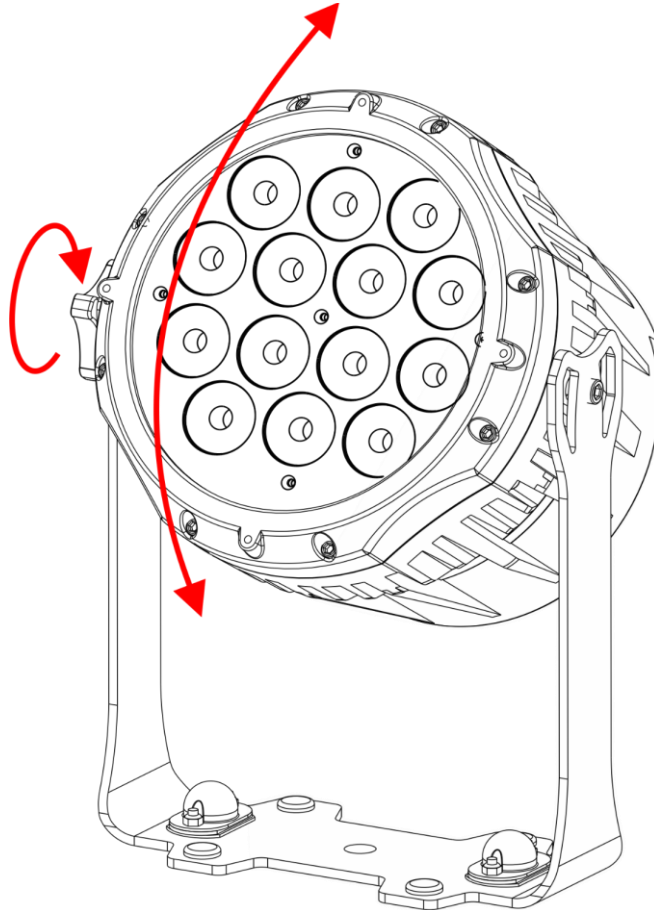

Fig. 06
- 01) Turn the **adjustment screw (03)** counterclockwise to release it.
- 02) Tilt the device to the desired angle (see Fig. 06).
- 03) Turn the **adjustment screw (03)** clockwise to tighten it. Make sure that the device cannot move freely after the **adjustment screw (03)** is tightened.